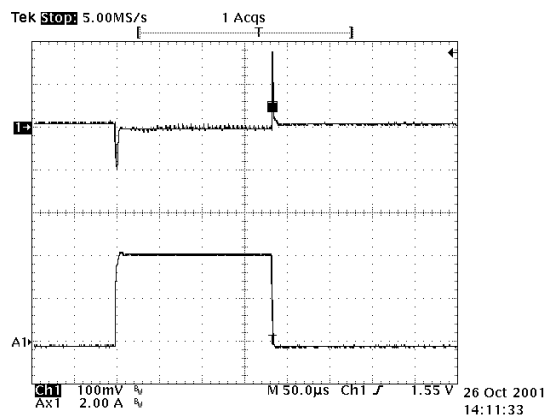

Figure 1
- The interval of current transitions in figures 1 and 2 are all smaller than 1uS.
- In figure 1, the IVTT transition is from -0.2A to 4A.